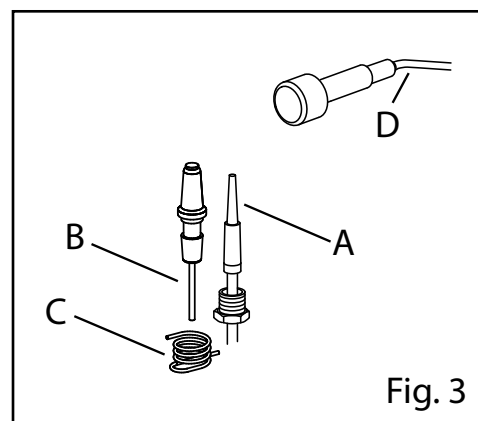

Fig. 3
In the provided models, the reduced thermal range is obtained with the “sized” by-pass minimum screw (Fig. 3), screwed hard (see reference Gas Table).
- Unscrew the thermocouple (e.g. Fig. 3/A)
- Disconnect the high voltage cable from the plug (e.g. Fig. 3/B)
- Remove the spring (e.g. Fig. 3/C)
- Connect the high voltage cable (e.g. Fig. 3/B)
- Disconnect the cable from the piezoelectric igniter (e.g. Fig. 3/D)